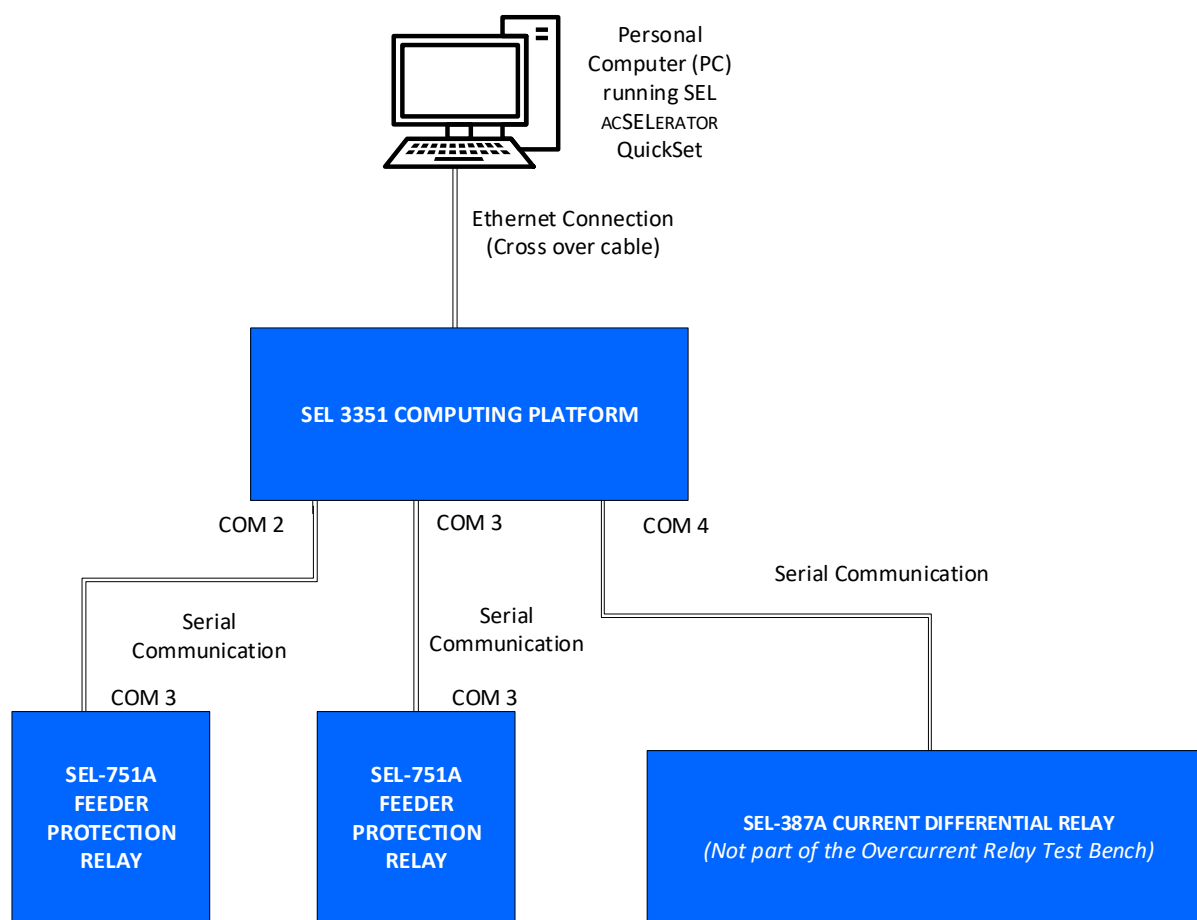

Figure 4.1. Communication set up for SEL microprocessor-based relays.
The overall communication setup for SEL 751-A Feeder Protection Relays employed in the test bench for demonstrating the application of microprocessor-based overcurrent relay protection and SEL-387A Current Differential Relay that can be used for demonstrating the application of microprocessor-based differential current protection relay, is shown in Figure 4.1. The SEL-751A Feeder Protection Relays, used in the Overcurrent Protection Relays Test Bench, can be configured and monitored conveniently with ACSELERATOR QuickSet® SEL-5030 software. ACSELERATOR QuickSet® SEL-5030 software provides the options of using serial, network or modem connections. For the test bench, the relays are connected to the SEL-3351 Computing Platform by using serial ports on these devices. The Computing Platform is connected to Personal Computer (PC) with crossover ethernet cable. Communication between SEL relays and ACSELERATOR QuickSet® is done by serial to network conversion using SubstationSERVER.NET installed on the SEL-3351 Computing Platform. SubstationSERVER.NET supports various communication protocols. For this application, Port Server supported by SubstationSERVER.NET enables ACSELERATOR QuickSet® to access the serial ports on the computing platform through Ethernet connection.
The hardware connection is done as per Figure 4.1. Lab PC is connected to SEL-3351 Computing Platform via Ethernet crossover cable. SEL-751A Feeder Protection Relays are connected to SEL-3351 Computing Platform using serial ports on these devices and SEL serial cables. COM port 3 on SEL-751A has been utilized. On the Computing Platform, COM ports on the rear side have been utilized. Computing Platform has 16 serial ports for connecting devices. For the overcurrent relay test bench, COM2 has been configured for connecting relay used for transformer primary protection. COM 3 has been connected with the relay that is employed for feeder (load) protection. COM4 has been configured to connect SEL-387A Current Differential Relay which can be used in the test bench proposed for demonstrating current differential protection relay (Chapter 5).